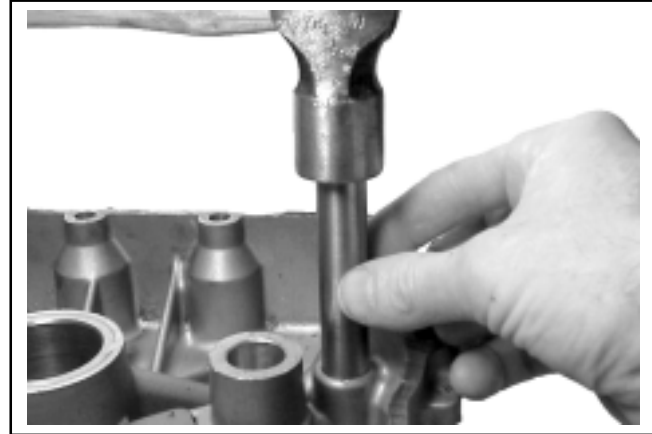

Figure 11-18. Inserting New Relief Valve into Bore of Closure Plate.
2. Use a piece of thin wall metal tubing or deep socket with a slightly smaller O.D. than base. Press or tap new relief valve into the bore of the closure plate until it bottoms. See Figure 11-18.